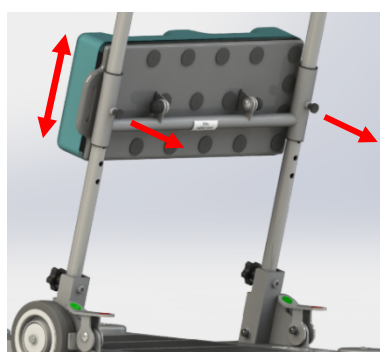

Figure 9
2. After releasing the knee/shin pad from its current location, it is now free to move up or down to the new preferred height for the patient. (see Figure 9)